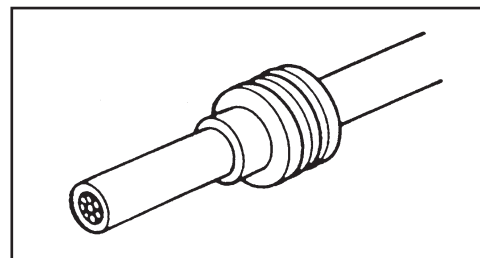

Figure 10
1. For **sealed connection systems only**: Slide the appropriate cable seal onto the wire end to be terminated as shown in Figure 10.